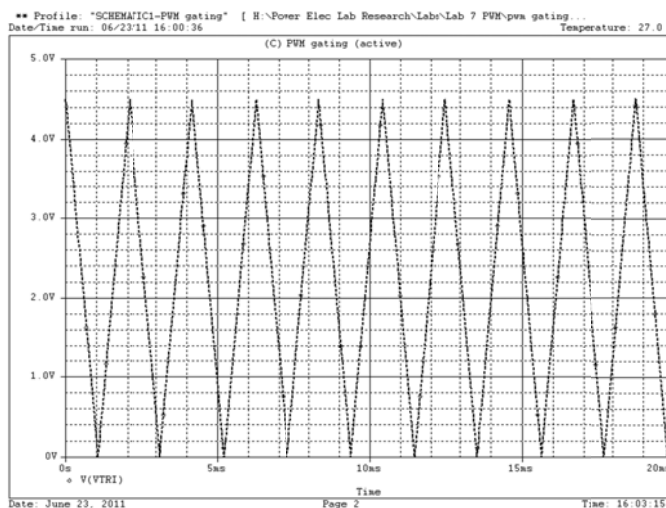

Figure 1 Vtri
1. With that in mind, sketch the output voltage if Vdc is a constant 3V. Use the space directly below Figure 1.